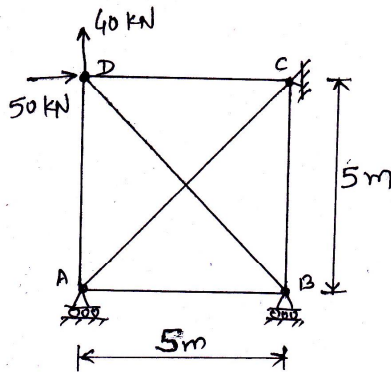

Fig. 3
- Q.3** (a) Obtain assembled flexibility matrix for the truss shown in Figure 3. Cross sectional area of all members is A. **07**
- (b) Calculate member end-actions for the truss shown in Figure 3 using flexibility member approach. Tabulate the member forces. **07**